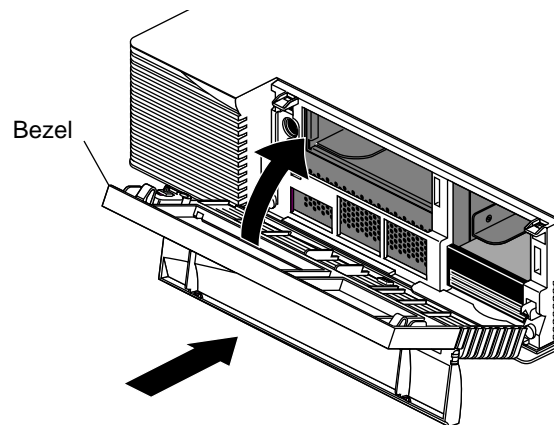

Figure 3-29 Replacing the Bezel
- Place the tabs on the bottom of the bezel in the grooves in the front of the chassis, as shown in Figure 3-29.